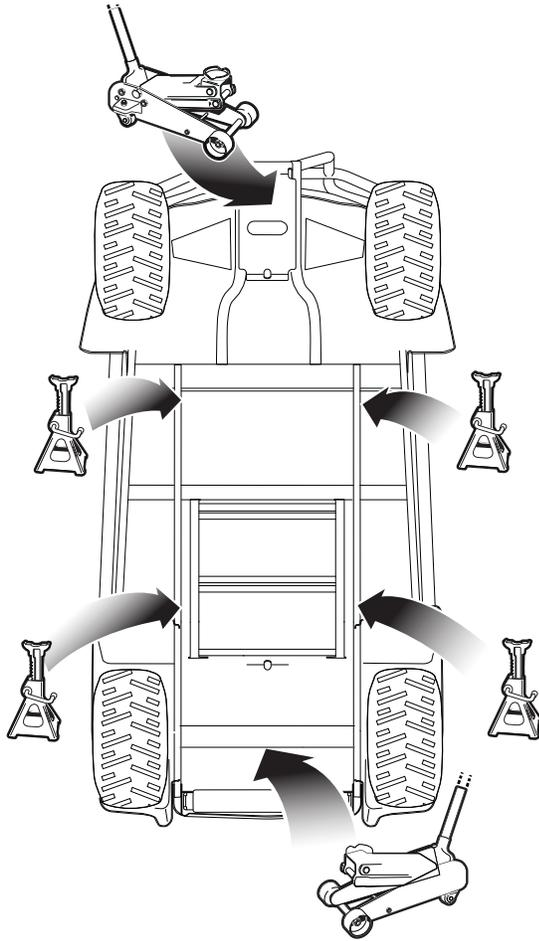

Fig. 1 Lifting the Vehicle
CAUTION When lifting the vehicle, position jacks and jack stands only in the areas indicated (Ref. Fig. 1).
2. Put the jack below the rear axle-tube, next to the differential housing or below the skid plate (Ref. Fig. 1).
3. Lift the vehicle and put the jack stands below the frame where the leaf-spring bracket is attached to the frame (Ref. Fig. 1).
2. Place the jack under the center front of the vehicle just behind the bumper (Ref. Fig. 1).
3. Lift the vehicle with jack and position the jack stands under the frame where the instrument panel support is attached to the frame (Ref. Fig. 1).